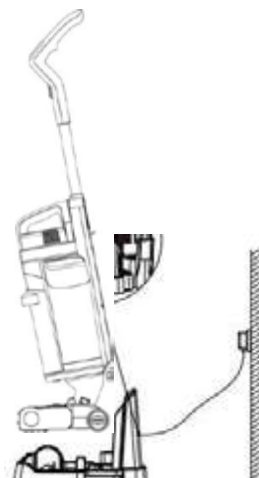

Figure 4-21
2. Place the unit in the base as shown in Figure 4-21. The power indicator on the front panel will blink and the unit will enter the charging state.